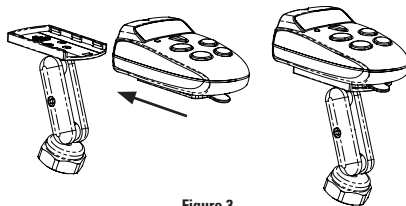

Figure 3
5. Slide the Main Console (sold separately) onto the *Mounting Plate* as shown in **Figure 3**.